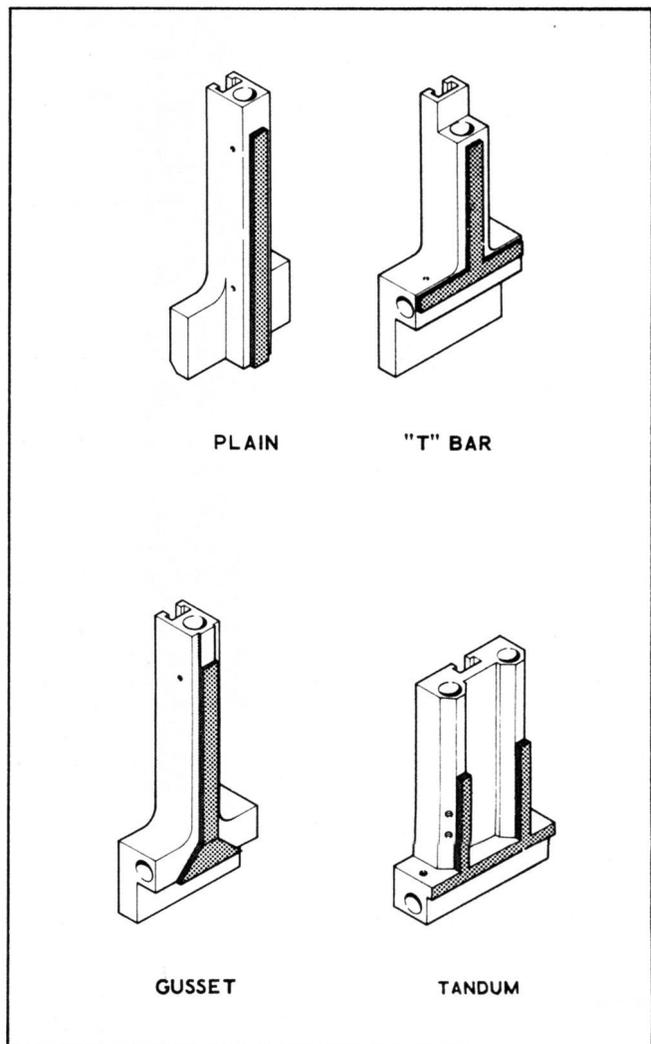

Figure 3-18. Side Seal Bars
a. Plain Seal Bar. The plain seal bar (Figure 3-18) is used to make fin type pouches.
b. Gusset Seal Bar. The gusset seal bar (Figure 3-18) is used to make gusset type pouches only. Only one size pouch can be made with any one set of gusset seal bars. One gusset seal bar has a relief cut in, to allow for the double thickness of web material.
c. "T" Bar Seal Bar. The "T" Bar seal bar (Figure 3-18) is used with fin type pouches requiring bottom seal. These bars form a side and bottom seal simultaneously, eliminating the bottom seal station. The "T" Bar can be used for one height pouch only.
d. Tandem Seal Bar. Tandem bars (Figure 3-18) are used to make double compartment pouches of fixed width and height.